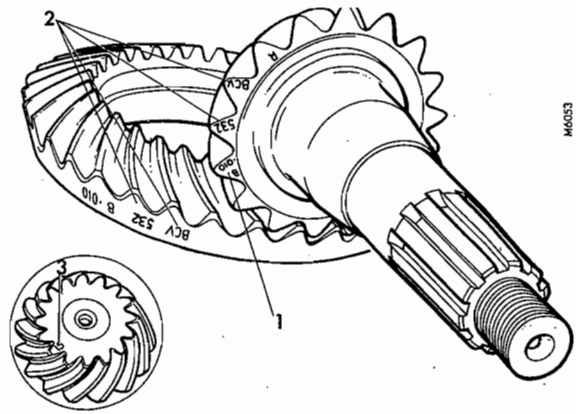

FIG. 3 CROWN WHEEL AND PINION MARKINGS
2. Examine end face of pinion to determine the setting figure, this being an etched number representing thousandths of an inch, Fig. 3.